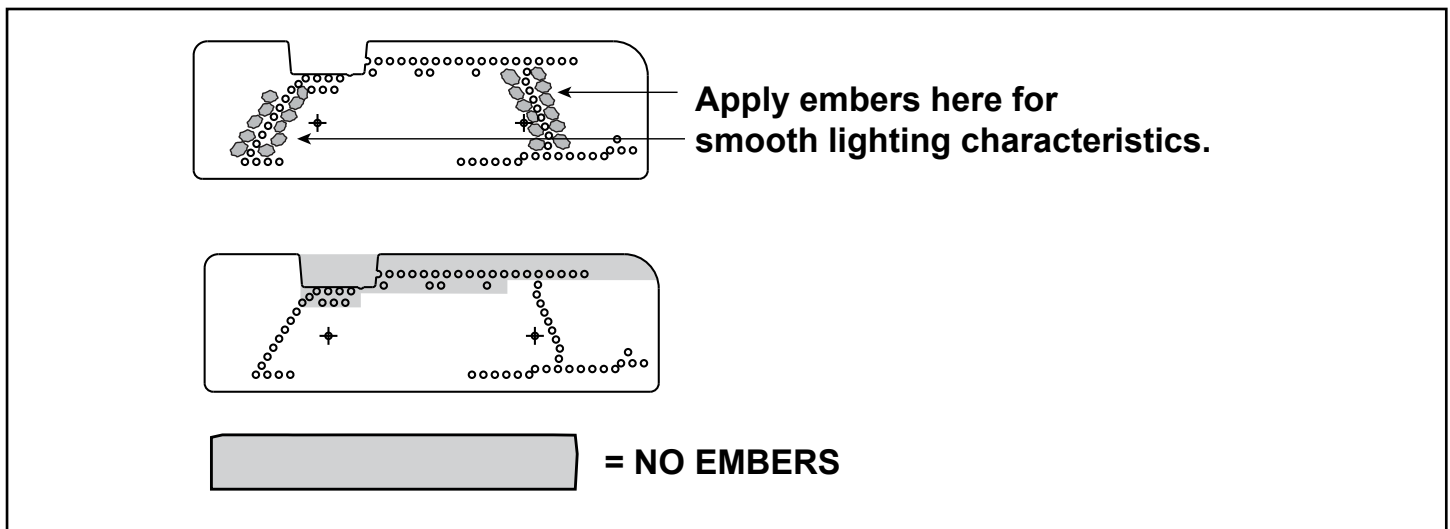

Figure 11.27 Burner Media / Ember Placement
- Embers may only be placed in areas as shown in Figure 11.27.